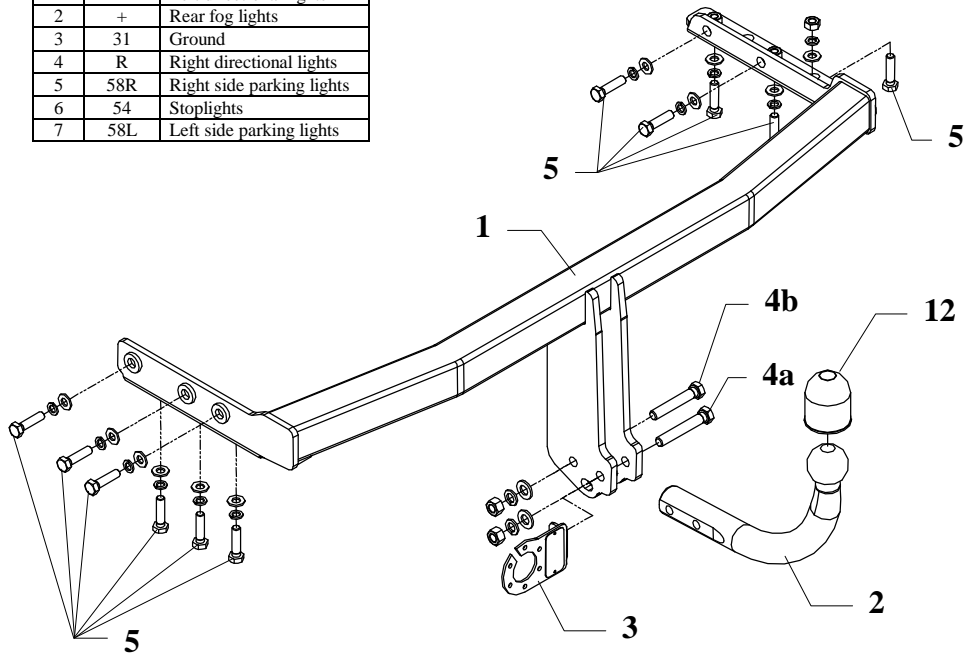

Fig. 1
3. Slide the main bar of towbar (pos. 1) to the chassis members and fix it using M10x40mm – pos. 5 (see fig. 1).